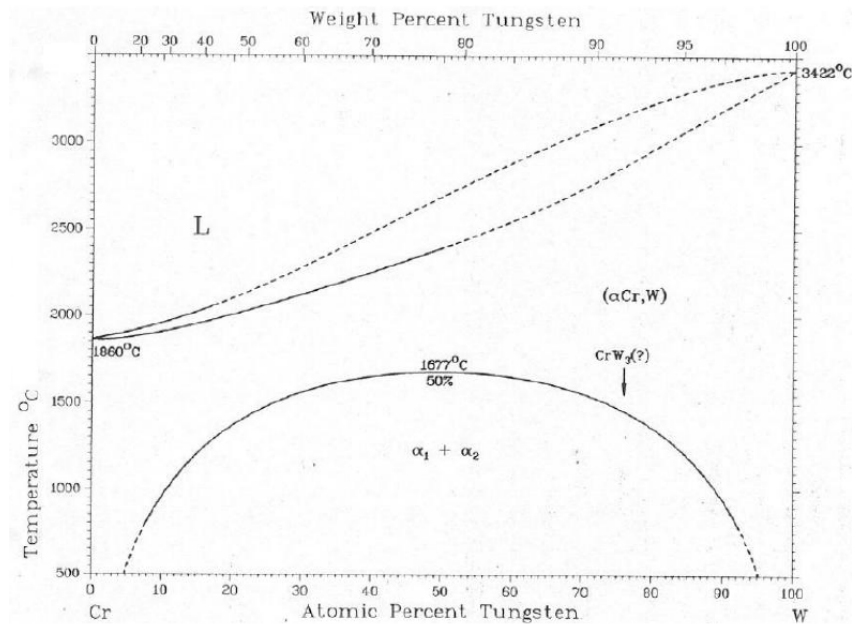

Figure .3: Cr-W Phase diagram.
- Based upon the temperature at the top of the miscibility gap in the Cr-W system (see Figure .3), do the following: